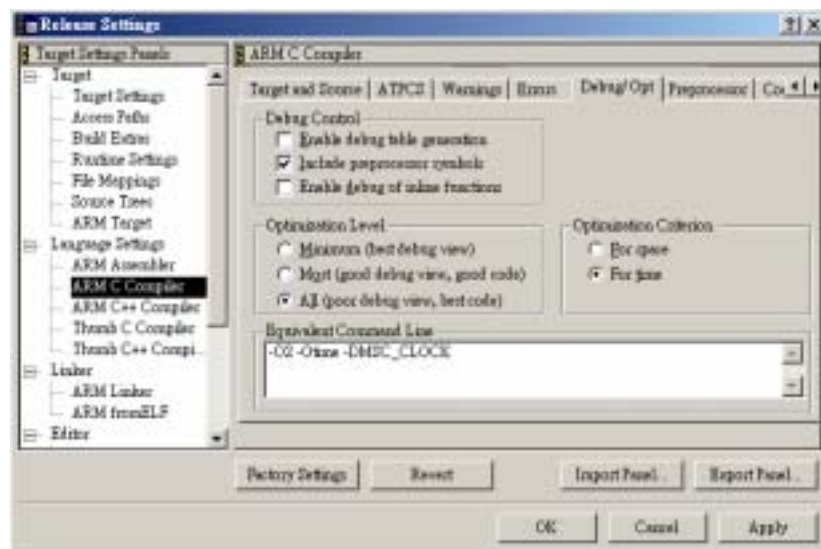

Figure 20. Debug/Opt configuration panel.
3. Click on the **Debug/Opt tab** to display Debug and Optimization options for the Release build target. Select the **For time** Optimization Criterion button. The Equivalent Command Line text box reflects the change, as shown in Figure 20.